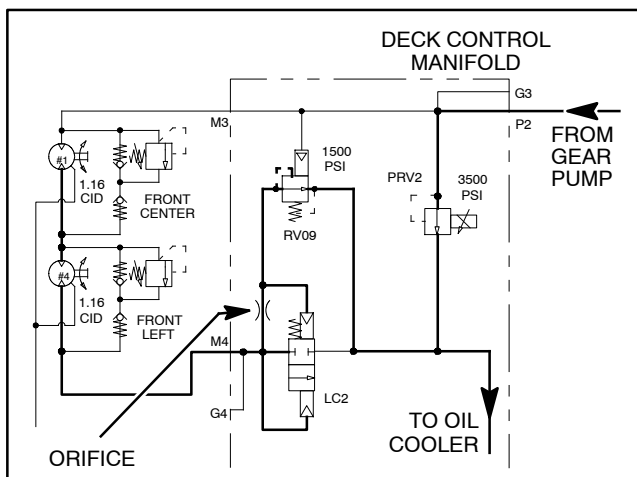
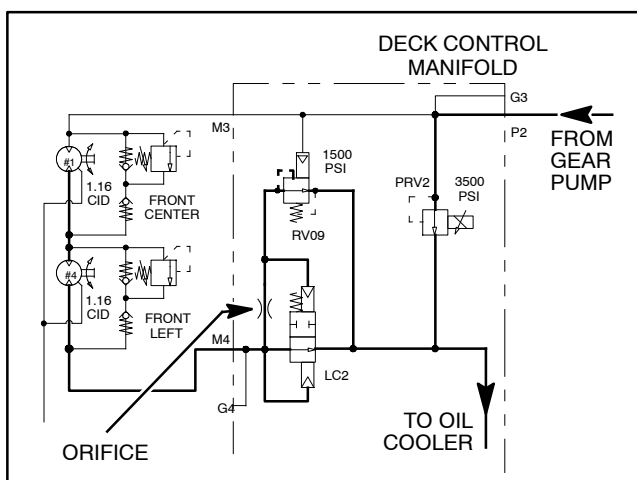

Figure 21
Figure 22
The inertia of the rotating cutting blades, however, effectively turns the deck motors into pumps causing an increase in pressure as the flow from the motors comes up against the closed logic cartridge (LC). When this pressure builds to approximately 1500 PSI (104 bar), the relief valve opens which allows a small amount of hydraulic flow past the relief valve (Fig. 21). This flow causes a pressure increase that shifts the logic cartridge to once again allow oil flow from the deck motors (Fig. 22). When return pressure drops below 1500 PSI (104 bar), the relief valve reseats and causes the logic cartridge to close again, blocking return flow from the deck motors to further slow the cutting blades. This action of the relief valve opening and the logic cartridge shifting occurs several times in a very short time frame as the blades finally come to a stop. Once the blades have stopped, the logic cartridge remains in the neutral position to keep the deck motors from rotating.